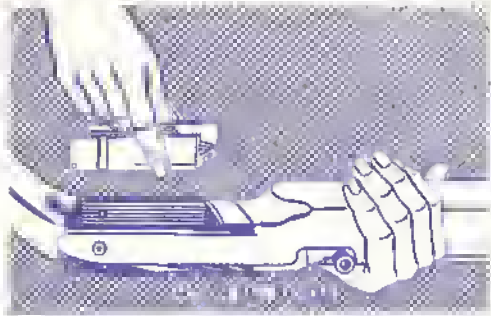

Figure 5
**BOLT ASSEMBLY:** With gun upside down, drop bolt (as shown in figure 5) into receiver, work retracting handle back and forth, breech bolt will drop into place, at top of receiver. Bolt is now assembled in receiver.